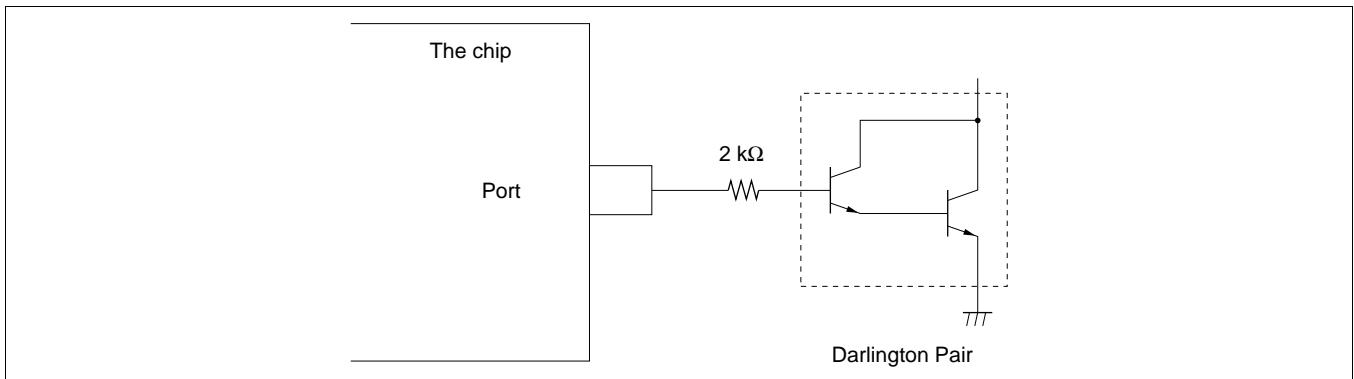

Figure 22-65 Darlington Pair Drive Circuit (Example)
2. When driving a darlington pair or LED directly, always insert a current-limiting resistor in the output line, as shown in figures 22-65 and 22-66.